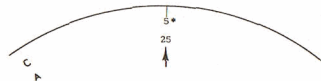

Figure 16
**Example:**  $\sqrt{25} = 5$  (Figure 16)